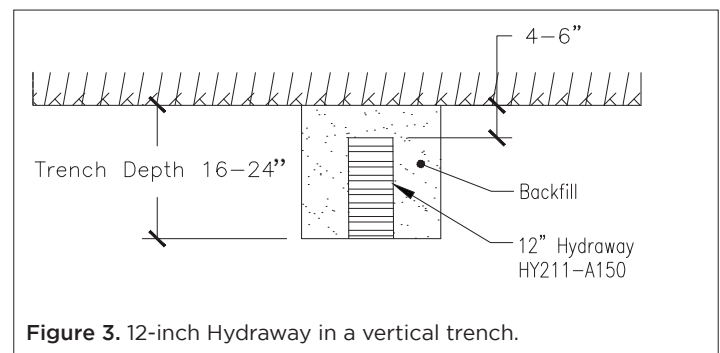

Figure 3. 12-inch Hydraway in a vertical trench.
- Unroll and place Hydraway into the center of the vertical trench (See Figure 3).